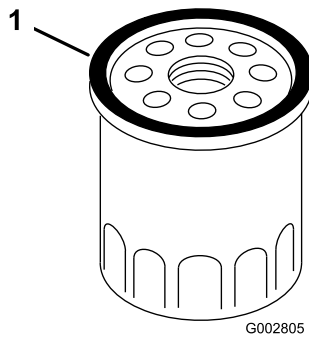

Figure 24
7. Use your finger to coat the gasket on the new filter with oil (Figure 24).